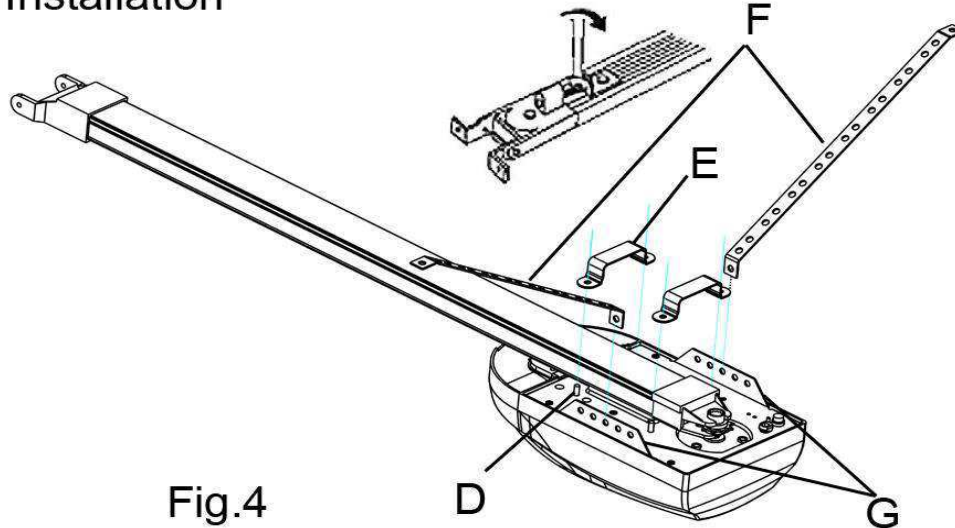
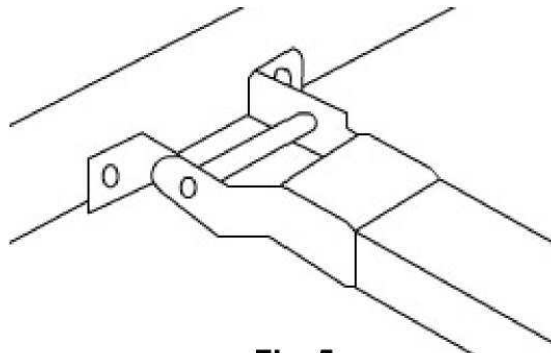
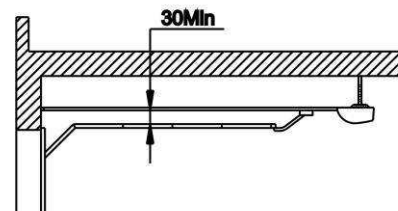

Fig.4
Fig. 5
Fig. 6
Before attaching the motor brackets (E) (FIG 4) screw an inverted nut (6mm) (D) on each stud then position the brackets (E) on the studs and secure them in-place using a second 6mm-nut and then lock the brackets to the rail by tightening the inverted lock nuts (D). Connect the opener edge (G) to the doorframe or to the ceiling iron angle (F) (Fig.5), maintaining a minimum gap of 30mm from the top panel's maximum height (Fig. 6). Check measurements for drilling insert and lock the brackets F and fix the opener to the ceiling with the correct fixings (Fig. 7). Cut off any hanging brackets excess.
4. Assembly header sleeve (Fig. 4)